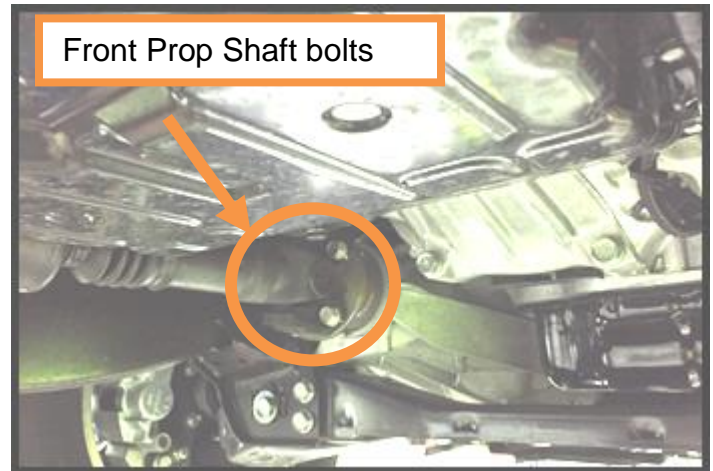

Figure 1
2. Locate the (4) front prop shaft bolts (Figure 1).